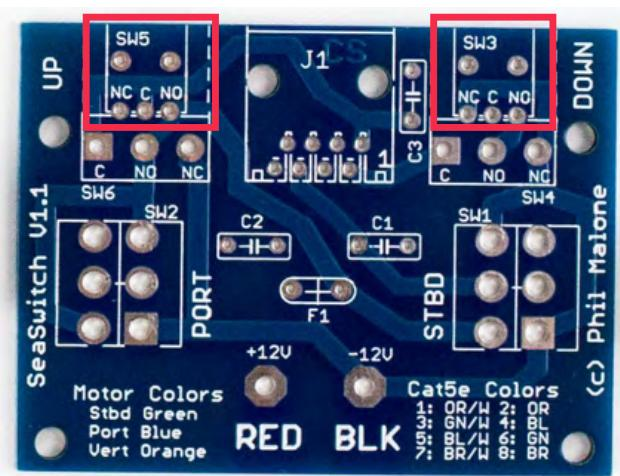

Figure 11
- Place the switches in the SW3 and SW5 locations on the component side of the PCB.. (Figure 11 & 12) Switches are identical and may be placed in either location.